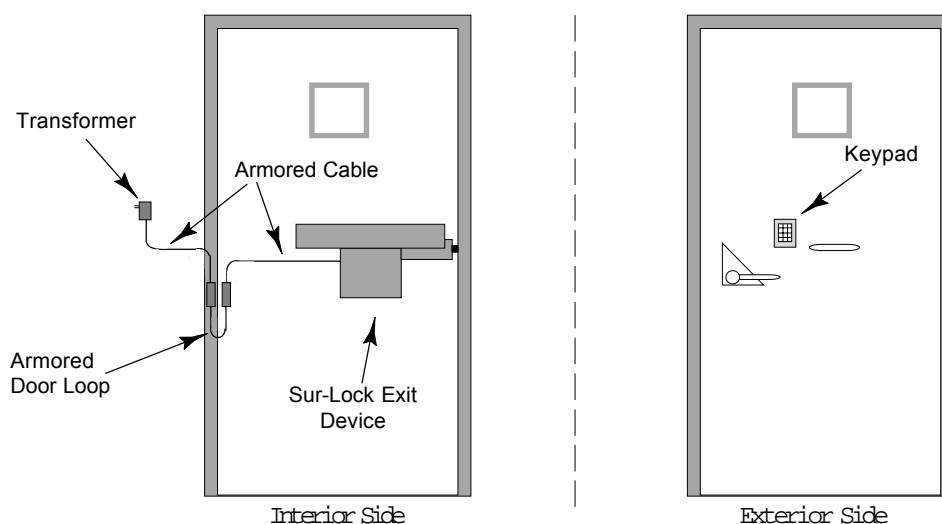

Figure 3: Normal Keyless System Component Mounting Locations
Major components should be installed in the order shown. Before proceeding, make certain you know where you are physically going to mount the keypad (on the face of the door), and where the transformer will be plugged in. Refer to Figures 3 and 4 when determining component mounting locations.
4. Mount the armored loop cable to the door and frame (see Figure 3).